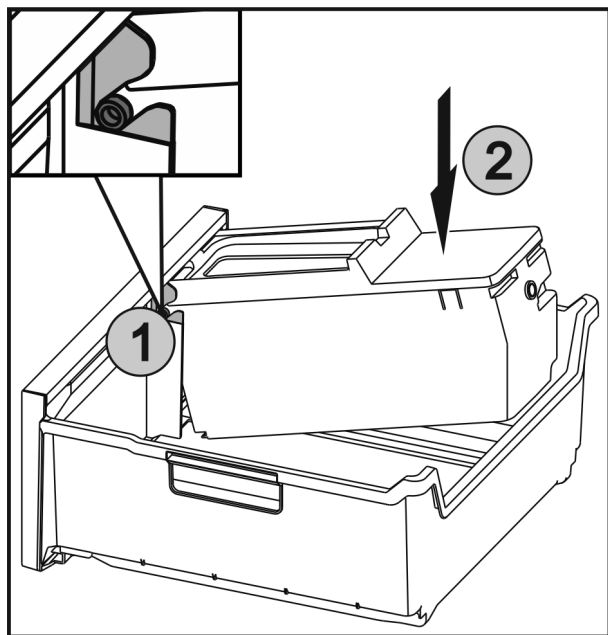

Fig. 49
- ▶ Push the axles Fig. 49 (1) on the EasyTwist-Ice into the guides and push the rear side Fig. 49 (2) until the lugs engage.